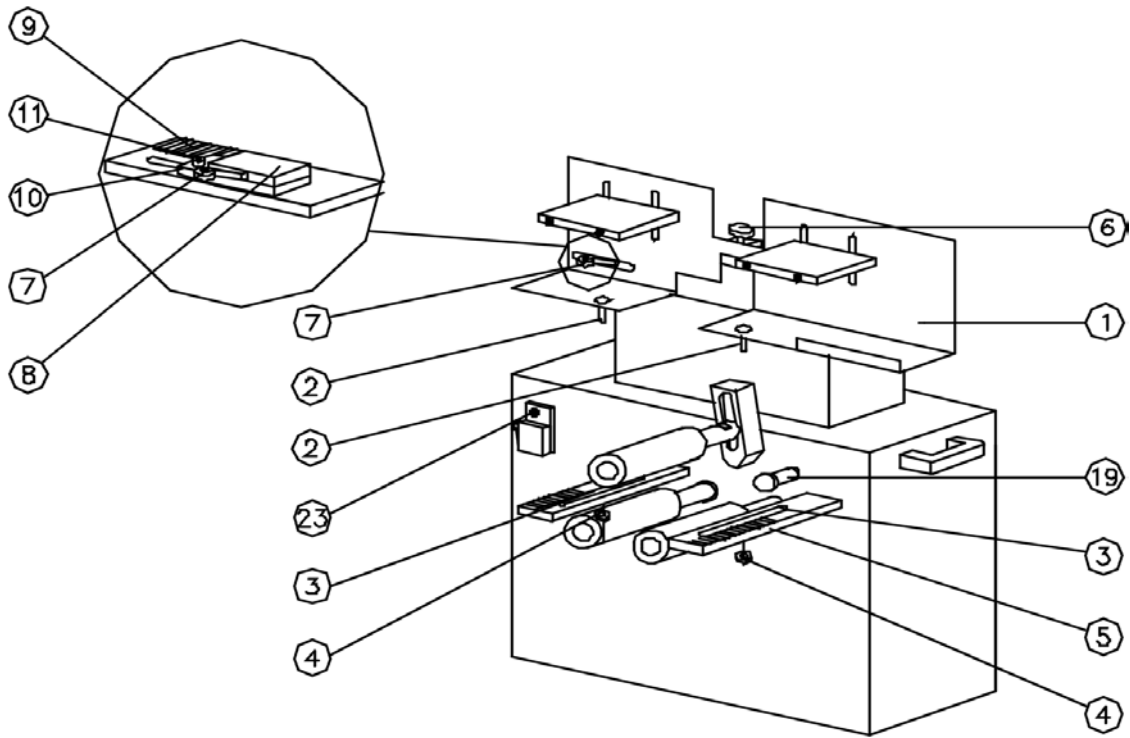
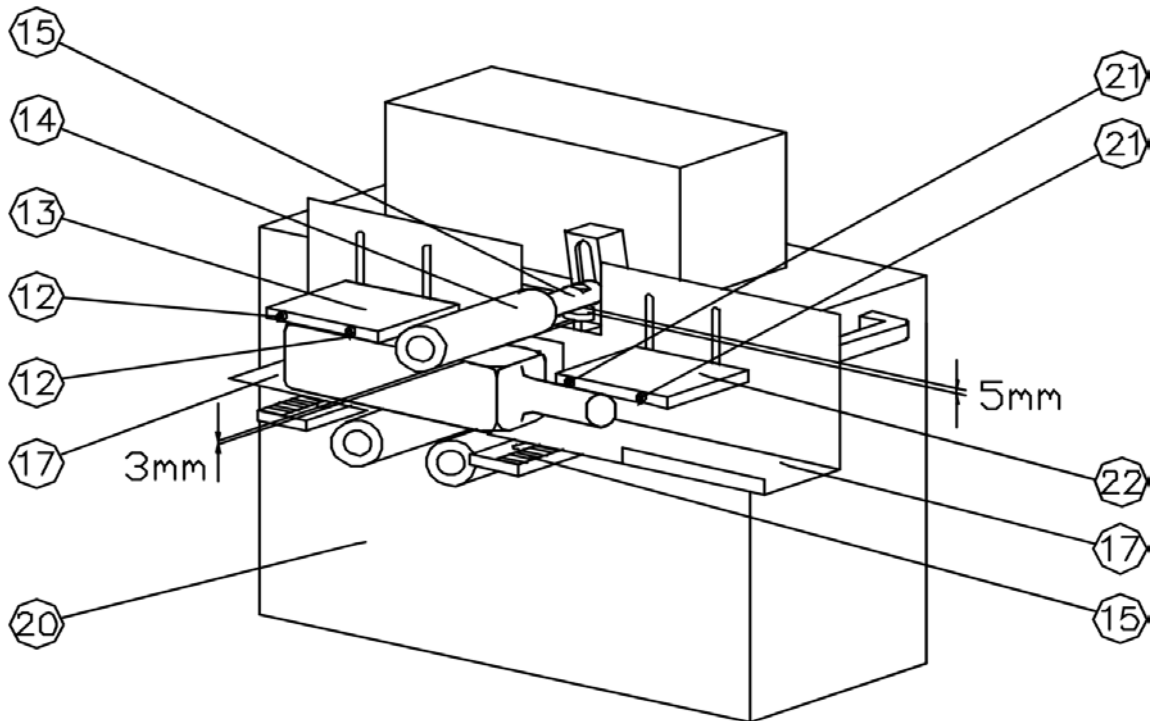

FIG. 10
FIG. 11
The machine fitted for packaging square bottles is equipped at the front, Fig. 10 and Fig. 11, with two brackets 5 to support the square bottle packaging assembly.
- b) Press the device 19 Fig. 10 by hand: the machine will carry out one cycle and then stop with the roller 14 in its highest position.
- b) Now position the bottle as shown in Fig. 11, ie. resting on the two rubber rollers. Loosen pin 15 and position the roller 14 at 3 mm from the bottle. Relock pin 15.